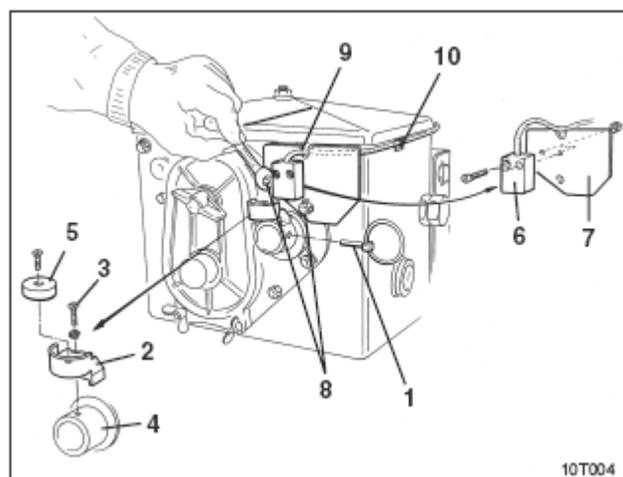
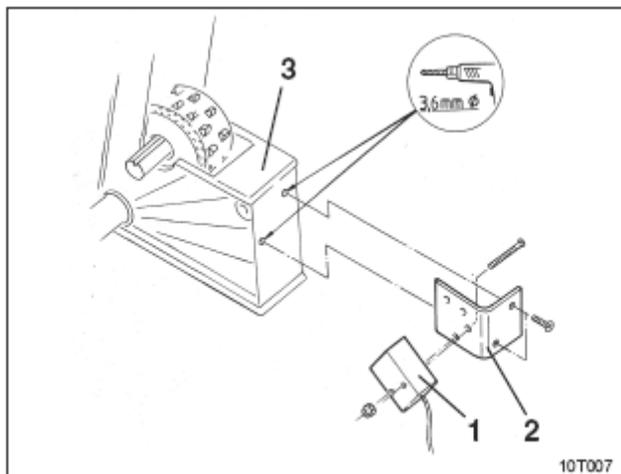
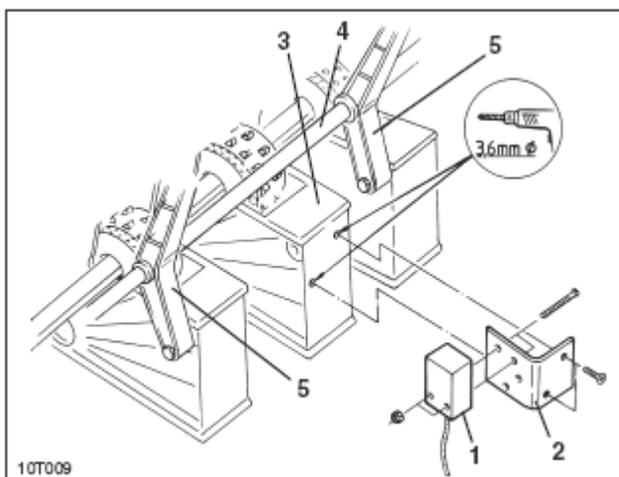

Fig. 9.1
Fig. 10.1
Fig. 10.3
- Remove lynch pin (Fig. 9.1/1. connecting agitator shaft to drive).
- Bolt the magnet holder (Fig. 9.1/2) on to the hollow gearbox input shaft (Fig.1/4) using M4 x 10 self-tapping screw (Fig. 9.1/3) and lock washer.
- Bolt magnet (Fig. 9.1/5) to magnet holder using a M4 x 10 self-tapping screw.
- Bolt sensor (Fig. 9.1/6) to sensor holder (Fig. 9.1/7).
- Bolt sensor holder (Fig. 9.1/7) to gearbox using two housing nuts (Fig. 9.1/8).
- Fitt sensor cable (Fig. 9.1/9) to tractor cab.
(Fig. 9.1/10) and cable ties.
- Insert lynch pin (Fig. 9.1/1. into hollow gearbox input shaft).
- Bolt sensor (Fig. 10.1/1) to sensor holder (Fig. 10.1/2).
- Using the borer supplied, make two holes (\varnothing 3,6 mm) in the last sowing housing (Fig. 10.1/3), outside left.
- Bolt sensor holder (Fig. 10.1/2) to sowing housing (Fig. 9.1/7).
- Bolt sensor (Fig. 10.3/1) to sensor holder (Fig. 10.3/2).
- Using the borer supplied, make two holes (\varnothing 3,6 mm) in a sowing housing (Fig. 10.3/3). Choose a sowing housing located between two bearings (Fig. 10.3/5) on the lay shaft (10.3/4).
- Bolt sensor holder (Fig. 10.3/2) to sowing housing (Fig. 9.1/7).